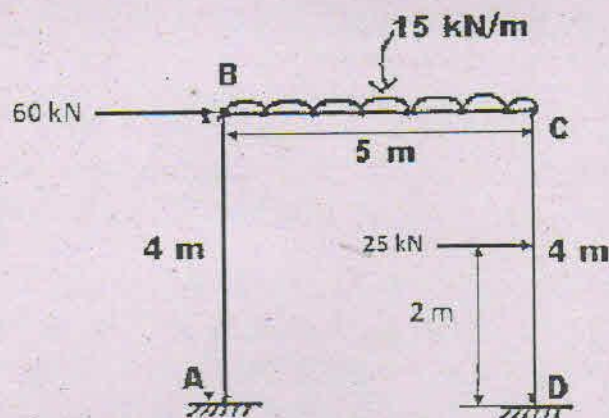

Figure 6
9. Establish the LOAD VECTOR in the structure for Matrix Analysis, having 4(Four) Nodes and 3 Elements as shown in the figure 6. (10)